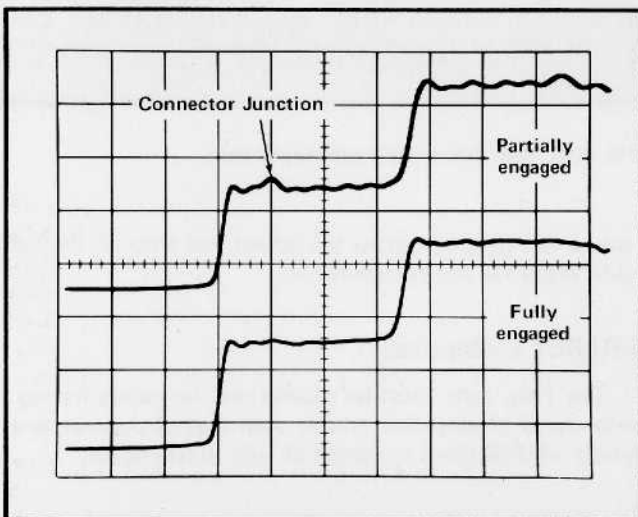

Fig. 2-9. TEST LINE connector junction location obtained by partially engaging the line to the connector.
*The 1 ns semi-rigid coaxial line (Tektronix Part No. 015-1023-00) should be used when making time or distance measurements because S-6 and S-52 waveform discontinuities are in the first 2.0 ns. The junction of the transmission line and the sampling head connector is found by partially disconnecting the line under test from the sampling head connector to produce an inductive discontinuity (see Fig. 2-9) at the junction. Adjust the FINE control to place the discontinuity, a bump, at a convenient reference point for the measurement and then fully reconnect the transmission line.*
5. Produce an inductive discontinuity at the cable connector by partially disengaging the cable connector from the 1 ns coaxial line connector. Adjust the FINE control to position the discontinuity (a bump on the displayed waveform) at a convenient reference line and then fully engage the connector. See Fig. 2-9 which illustrates this discontinuity.